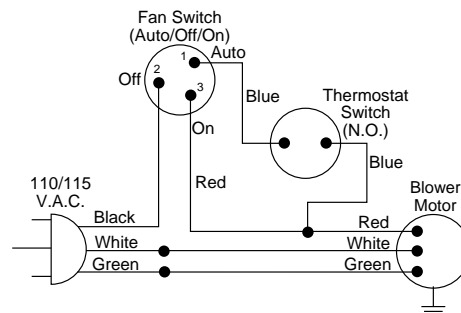

Figure 17 - Wiring Diagram For Blower Accessory Standard Installation
4. Carefully disconnect green and white wires at their insulated connectors (see Figure 17).